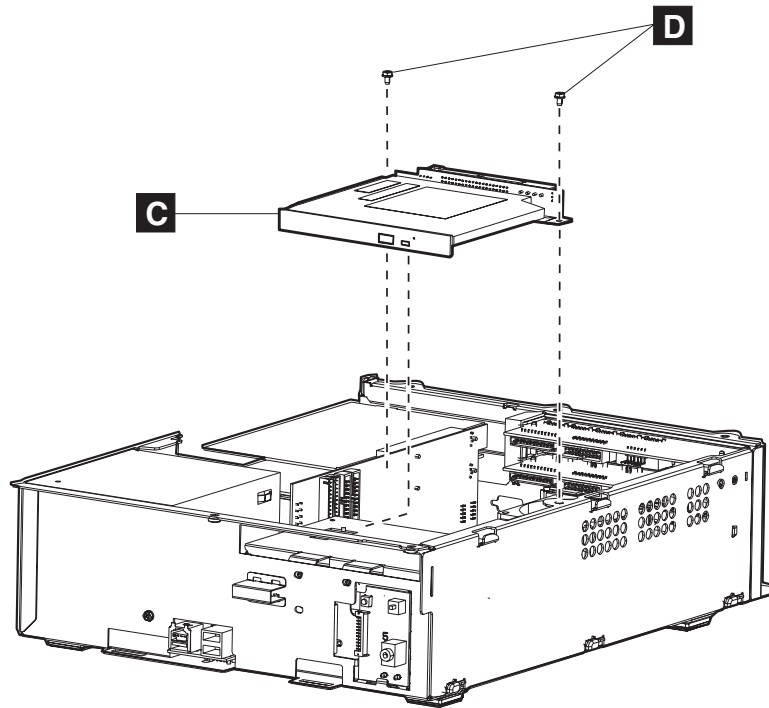

Figure 22. Removing the CD-ROM
4. See Figure 22 on page 34 and remove the screws **D** from the front of the unit that hold the CD-ROM **C** in place.